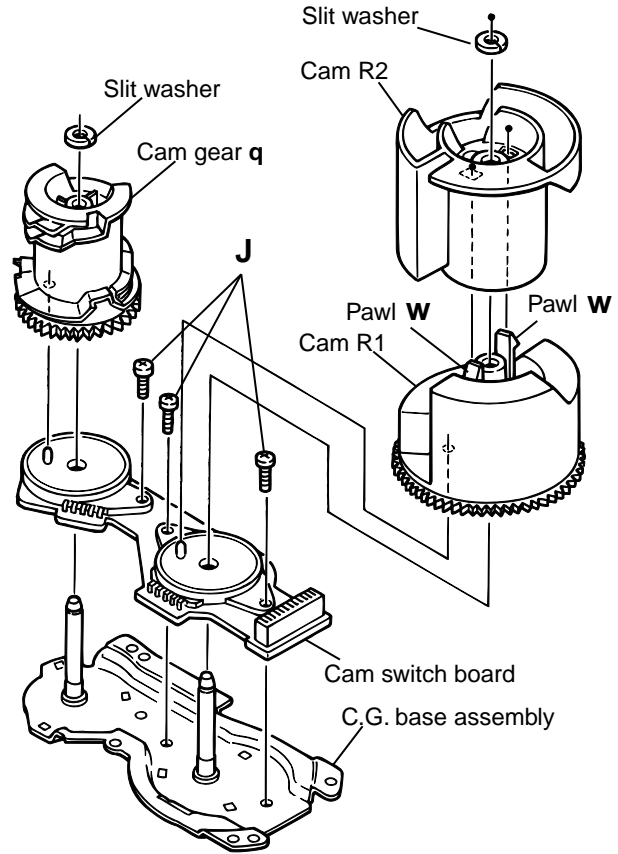

Fig.22
**■ Removing the cams R1/R2 assembly and cam gear q(See Fig.22)**
**■ Removing the C.G. base assembly (See Fig.22 and 23)**